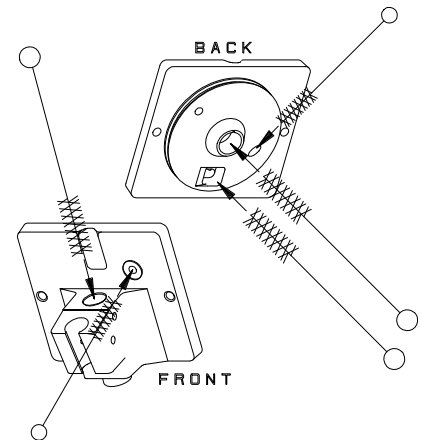

Figure 6-5
a. The head assembly, o-ring grooves, plunger, air relief plug, key and dispense openings as shown in figure 6-5.